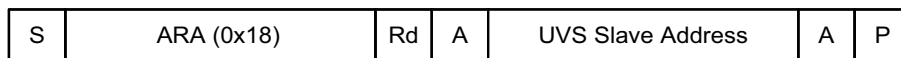

Fig. 10 - Command Format for Responds to an ARA
- (1) If the host implements the INT function, it performs a modified received byte operation to disengage VEML6070’s acknowledge signal and acknowledge alert response address (ARA), 0x18 (Hex). A command format for responses to an ARA is shown in figure 10.